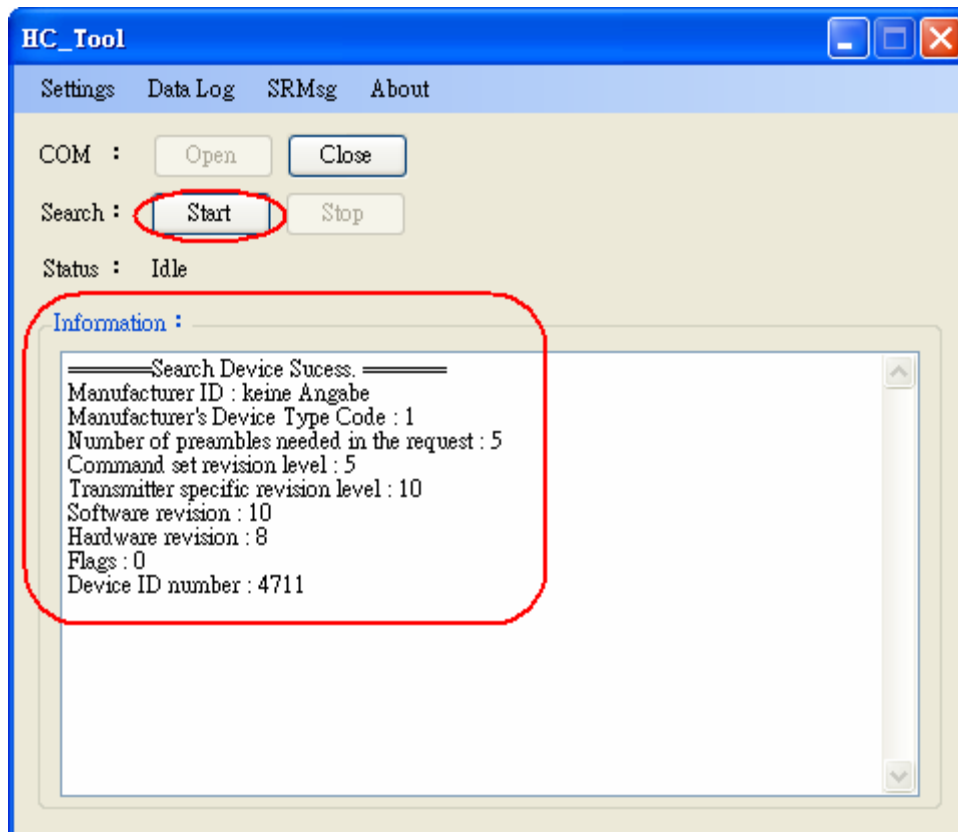

Figure 3-4: HART device Information
**Step5:** Click “Start” button to search all HART devices and the result will be shown in the ”Information” field like Figure 3-4.